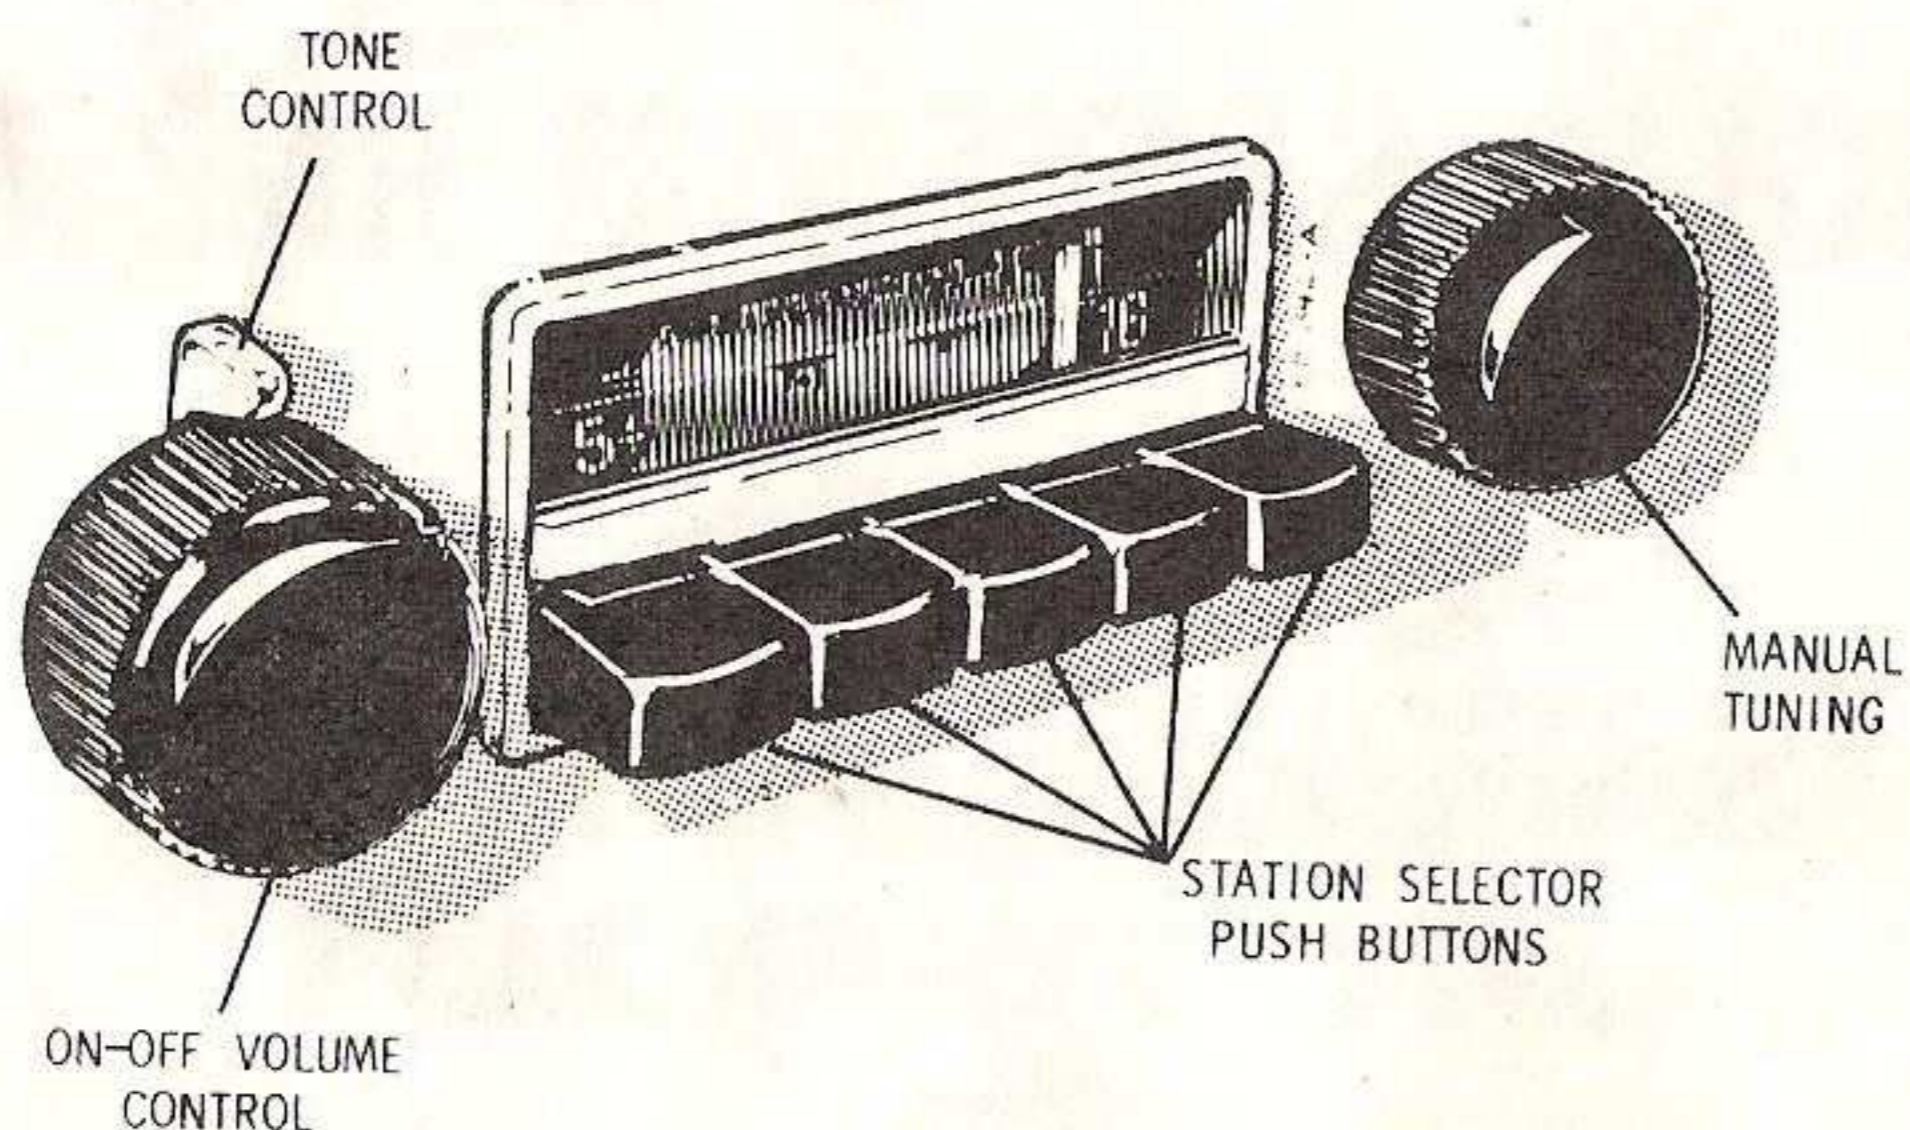

FIG. 1
**TO TUNE STATIONS MANUALLY,** turn the right-hand knob (Fig. 1) either left or right.